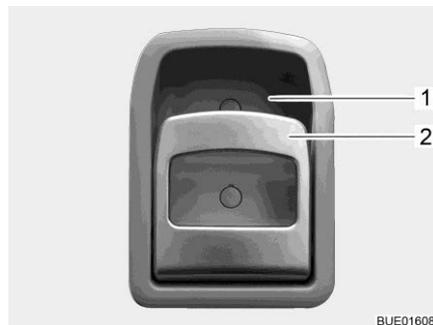

Fig. 34 Door lock (conversion door, inside)
- Pull on the handle (Fig. 34,2). The door lock is unlatched or opened.
- Press the upper part of the handle (Fig. 34,1) in the direction of the recessed handle (Fig. 34,1). The door lock is locked.